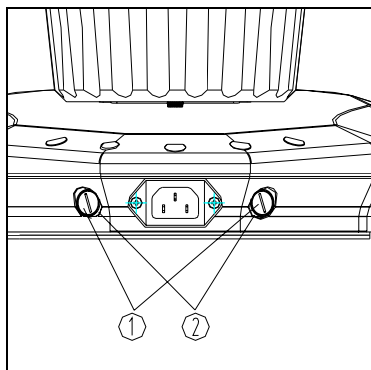

Figure 13
Please set the power switch at "O" before replace fuse. Use "+" screw driver to take off fuse ① from its base ② and change a new one, then screw in. (Fig. 13)